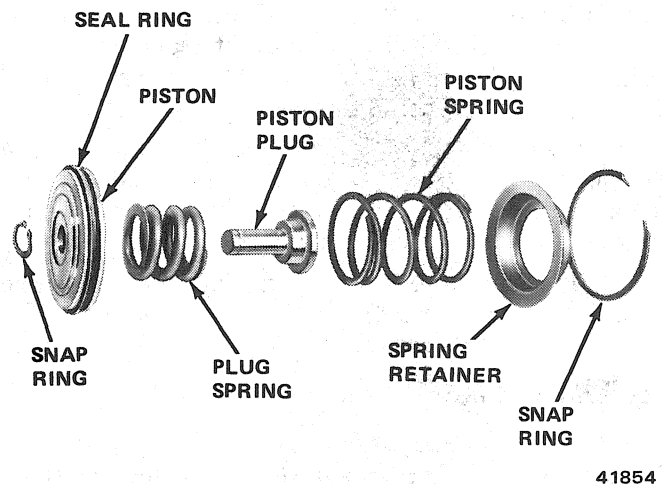

Fig. 2C-95 Rear Servo Assembly
- (1) Compress piston plug spring and remove snap ring.
- (2) Remove snap ring, piston plug, and plug spring (fig. 2C-95).